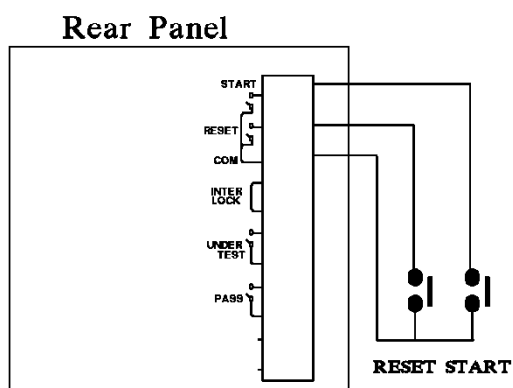

Figure 2-1
- For single control of START and RESET signals follow *Figure 2-1* listed below to connect them to the REMOTE position on the system back panel.
- Either the relay switch control in *Figure 2-1* or the coupler control in